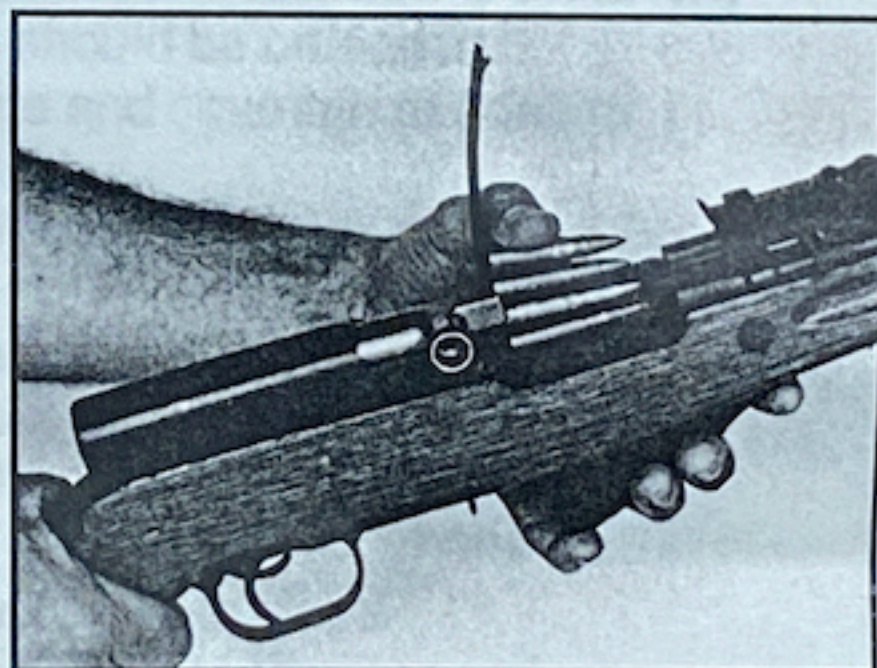

Figure 4
3. Load with either single rounds or stripper clips. (Figure 4)